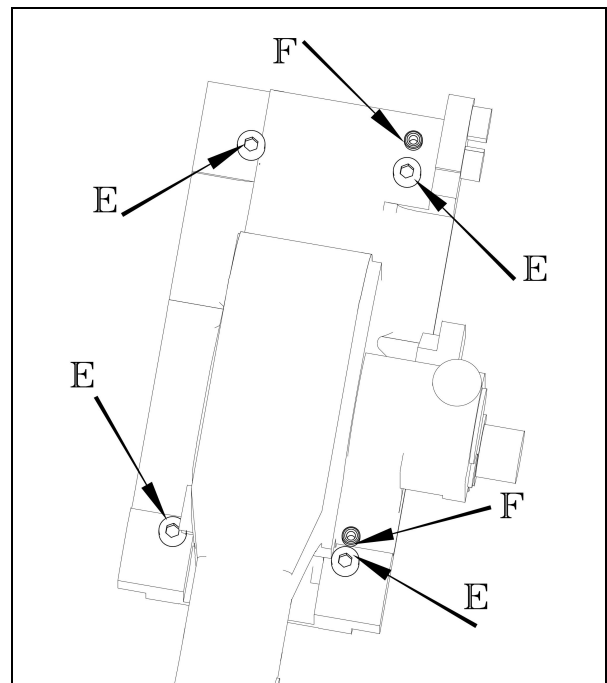

Fig 2
12. Remove the 4 head screws (E), and 2 head pins (F) in Fig 2. Remove the head.